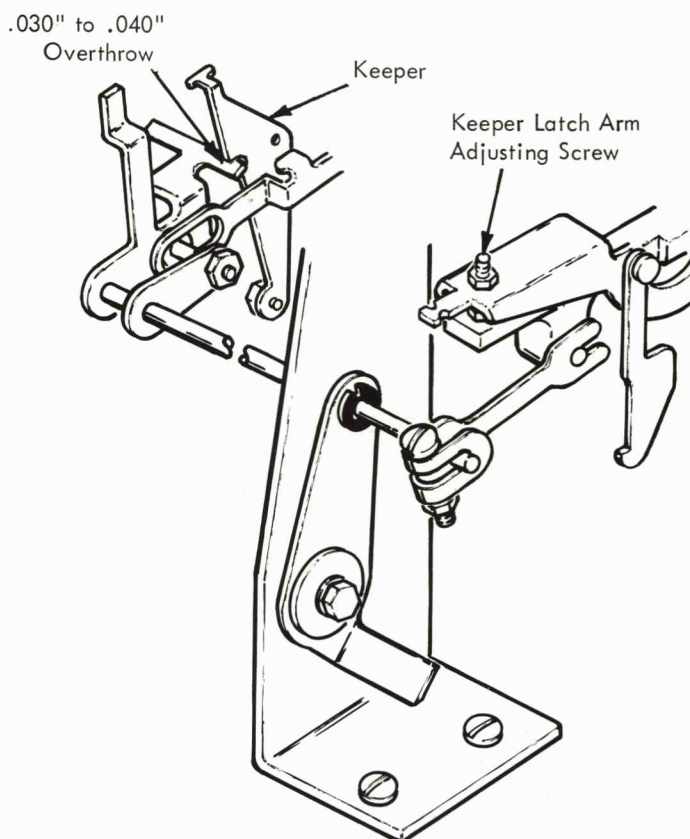

FIGURE 147.3 Clutch Latch Overthrow Adjustment
- b. **Carrier Return Latch Arm Adjusting Screw** (clutch latch overthrow) - With the carrier return cam on the high point, adjust the keeper latch arm adjusting screw (Fig. 147.3) so that the clutch latch will overthrow the latching surface of the keeper by .030" to .040". Be sure that the platen and feed rolls are installed and the index selector lever is in the double index position when checking this adjustment. NOTE: Contact assembly removed when making this adjustment.